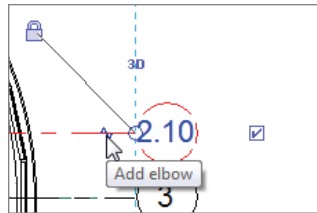

FIGURE 8.12 Clicking the Add Elbow grip after selecting the grid
2. You will see several blue grips appear. Pick the one that appears as a break line, as shown in Figure 8.12.